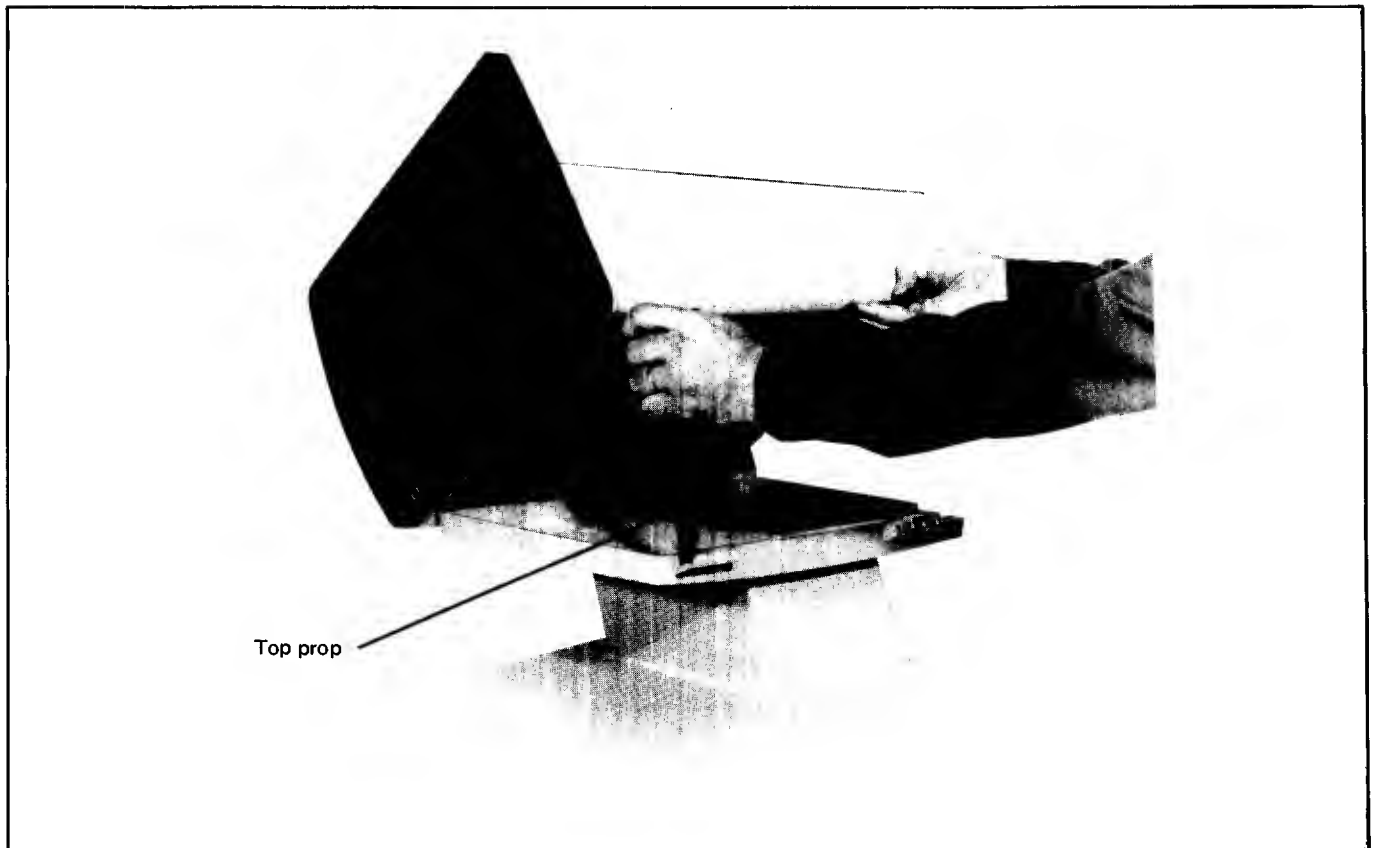

Figure 7-2 Terminal Set To The Half-Open Position
6. Squeeze the upper end of the top prop and lift the mainframe upward (see figure 7-2). Then slide the mainframe forward until it is free from the support hinge and remove it.